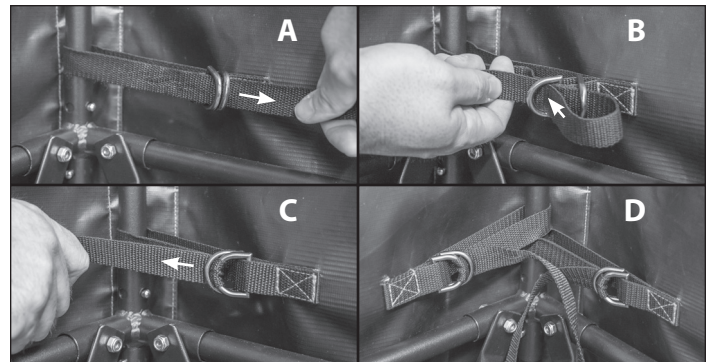

FIGURE 16
7. Pull all panels tight by wrapping D-ring straps around assembled C1 or G1 poles. Feed the long strap through both D-rings and back through to tighten. **SEE FIGURE 16 A-D.**
11. Pull the roof panel tight by wrapping D-ring straps around eave frame. Feed the long strap through both D-rings and back through to tighten. Refer back to **FIGURE 16** for strap routing.